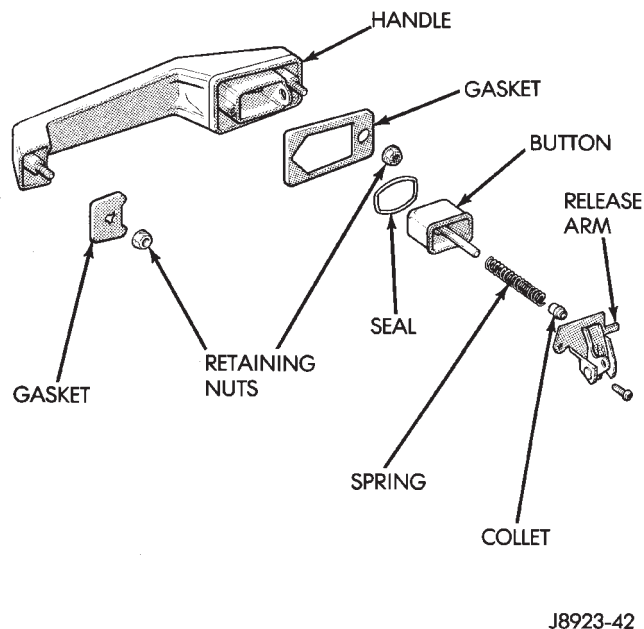

Fig. 73 Door Handle Components
- (1) Assemble the replacement door handle, if necessary (Fig. 73). Apply silicone spray lubricant to the components.